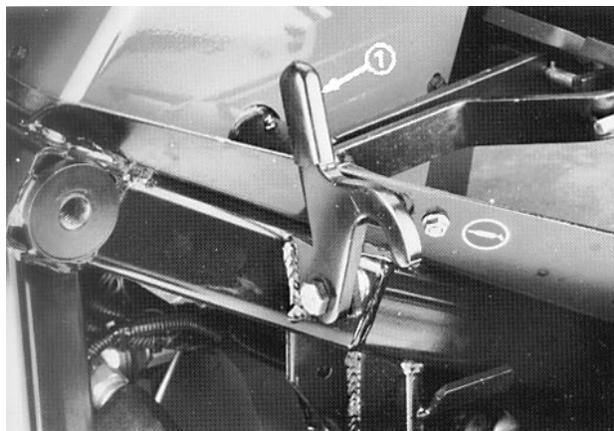

Figure 13
**Transport Latches** (Fig. 13)—Three latches secure